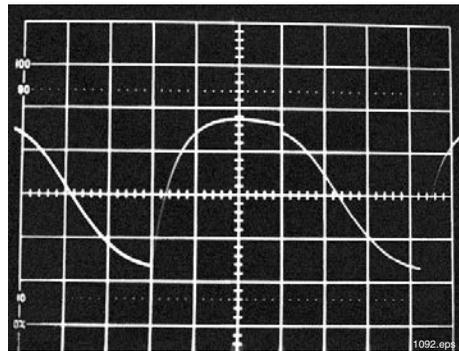

Figure 7.2 Oscilloscope screen showing the output of the signal generator and hex inverter (pins 2, 4, 6, 8 and 10 of 74LS05).
9. Verify that the 74LS05 gate is driving the LED properly by observing the electrical signal present at pin 2 of the 74LS05 hex inverter with the oscilloscope. The observed signal should be similar to that shown in **Figure 7.2**.